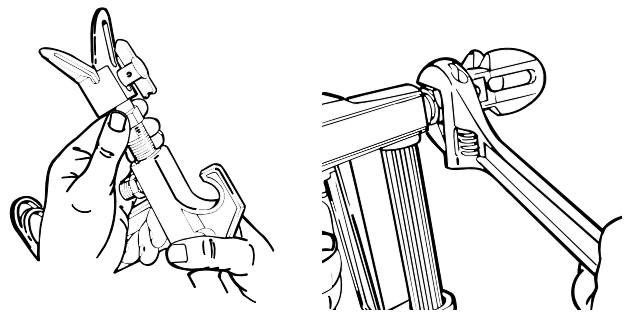

Figure 7- Attach Tip to Gun
4. Attach spray tip to gun. Tighten nut first by hand, then tighten with a wrench. See Figure 7.